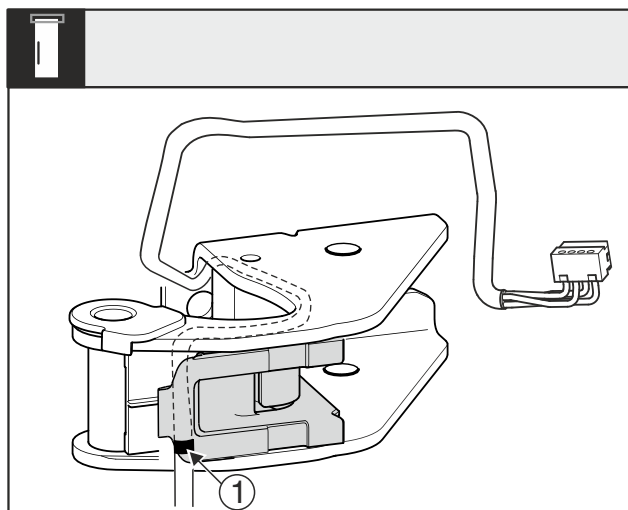

Fig. 27
- The center mark Fig. 27 (1) must be positioned on the edge of the cable bracket.